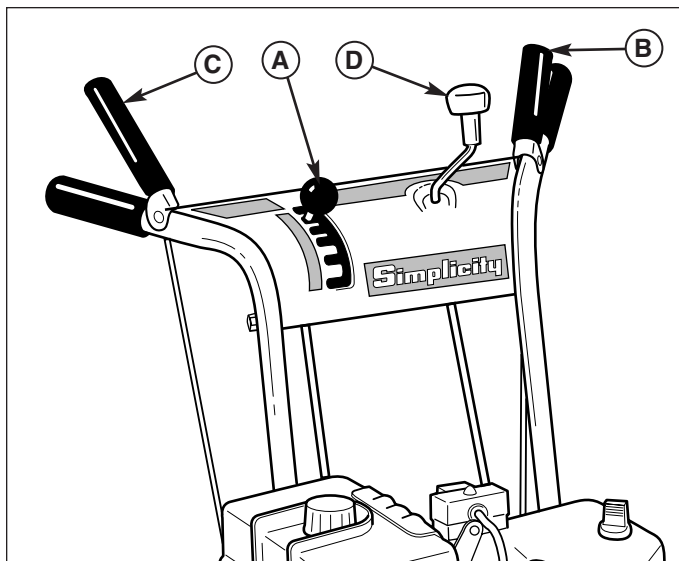

Figure 2. Operator's Control Position
A. Speed Selector - This lever (A, Figures 2 & 3) is used to set the ground speed of the snowthrower.
B. Traction & Free Hand™ Control - This control engages the traction drive as the lever (B, Figures 2 & 3) is depressed, and disengages the traction drive when the lever is released. When both levers are depressed the Free Hand™ control is activated. This allows the auger control to be released yet the auger remains engaged until the traction Free Hand™ is released. **NOTE:** Changing ground speeds must only be done while the Drive Control is in the disengaged (fully released) position.
C. Auger Control - The Auger Control clutch lever (C Figures 2 & 3), engages the auger drive when the lever is depressed and disengages the auger drive when the lever is released (unless Traction Free Hand™ control is also depressed-see above).
D. Chute Direction Control - The Chute Direction Control (D, Figures 2 & 3), allows the discharge chute to be rotated to throw snow in the desired direction. Snow may be thrown at any angle from straight left, to straight forward, to straight right.
E. Chute Deflector - Controls the distance snow is thrown. Tilting the Chute Deflector (E, Figures 2 & 3) UP provides a higher stream and greater distance, while tilting the deflector DOWN provides a lower stream and less distance.
F. Chute Deflector Knob - This knob (F, Figures 2 & 3) allows the discharge Chute Deflector (E, Figures 2 & 3) to be locked in the desired tilt position.
6. Check the drive control (B, Figure 2), and auger control (C, Figure 6) for proper operation. If adjustment is required, see the Adjustments Section for procedures.
7. Check the chute direction control (D, Figure 2) for proper operation. The discharge chute should rotate freely in both directions. See the Adjustments Section for adjustment procedures and troubleshooting.
10. Check the speed selector (A, Figure 2) for smooth operation. The control must move freely into each speed position gate and remain in position when released. If the speed selector does not move freely into all forward and reverse speed positions, contact your local authorized dealer for assistance.